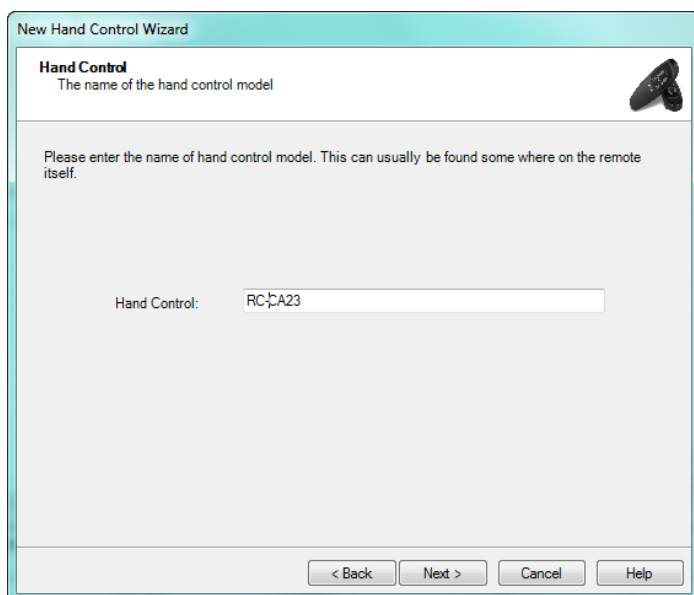

FIG. 17 New Hand Control Wizard - Hand Control dialog
5. Click **Next** to proceed to the *Hand Control* dialog (FIG. 17):